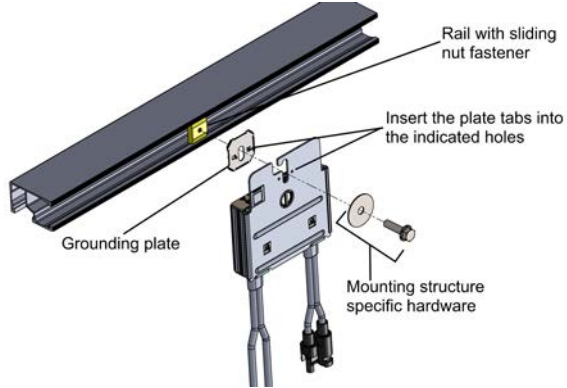

Figure 2: Power Optimizer installation and grounding using a grounding plate
- For mounting on rails with sliding nut fasteners:** If the star washer cannot be used, use the SolarEdge grounding plate (purchased separately) between the railing and the flat side of the mounting bracket. Use mounting specific hardware as needed. Apply a torque of 9.5 N\*m / 7 lb\*ft. See Figure 2.